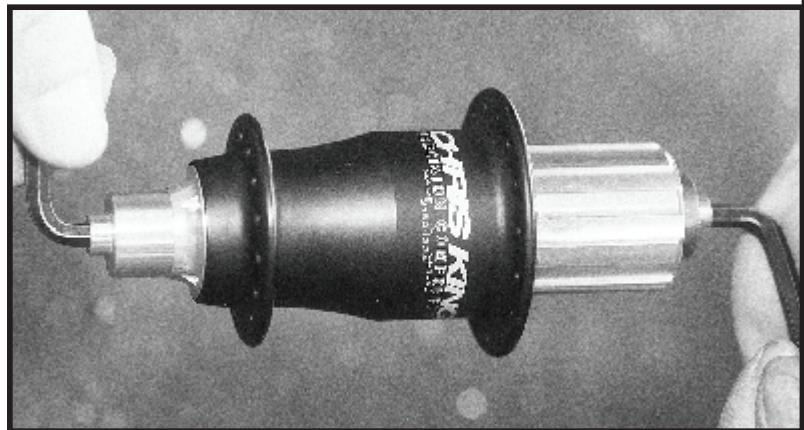

Figure 21 - disassemble main axle
*(See figure 21.) *Pro Tip: Use a bench vice to hold one of the 5mm hex wrenches.*